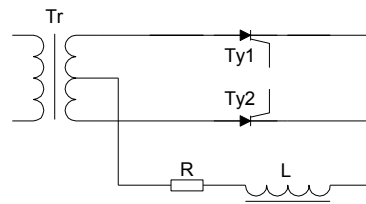

Fig. 18.3
18.3.2 Controllable full-wave thyristor rectifier tests. The rectifier is supplied by transformer with sectional secondary winding. The load has resistance-inductive (LR) character. The scheme is shown in Fig. 18.3.